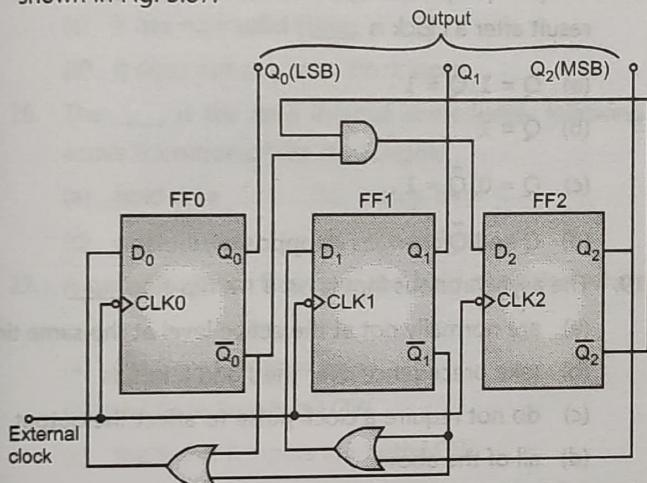

Fig. 3.87
- Based on above expressions, the resulting circuit diagram is shown in Fig. 3.87.